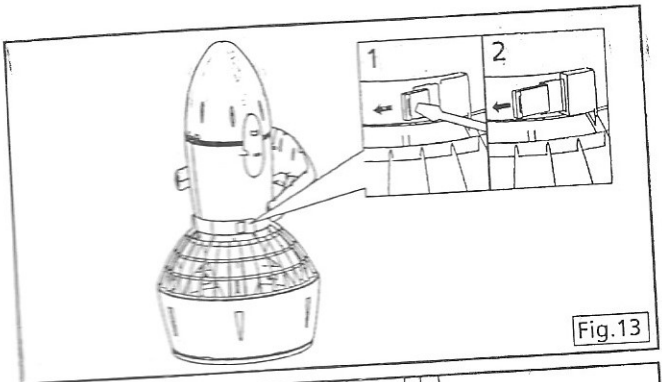

Fig.13
3. Insert a screw driver as shown in fig. 13 to remove the two grille pins.